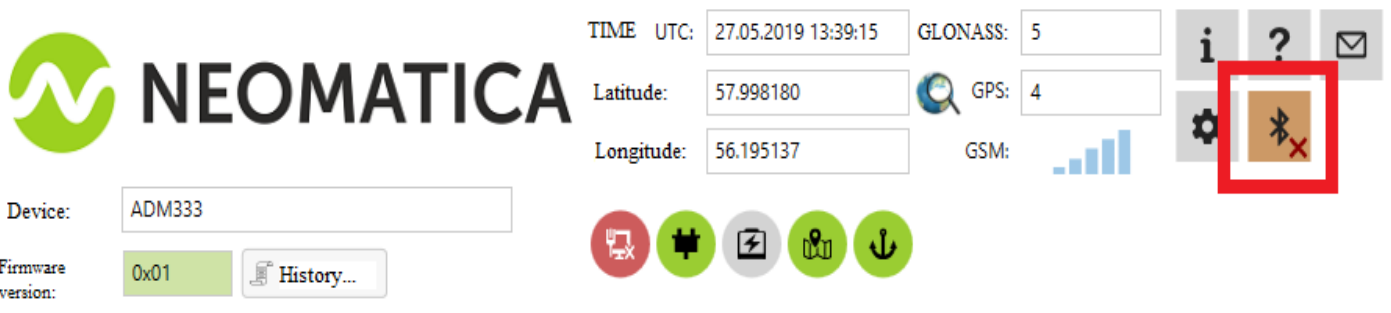

Figure 6 – ADM Configurator: “disable device button”
- 7) After the device setting, if connection of another tracker is required, click "disable device" in the upper right corner of the ADM Configurator. The ADM Configurator will go into a standby mode as shown in the Figure 6.